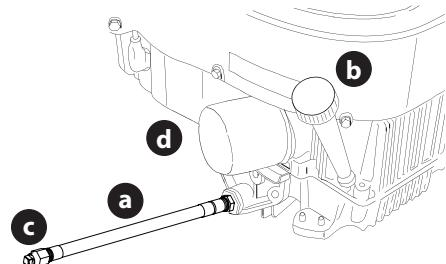

Figure 33
1. Locate the oil drain hose (a) on the side of the engine (Figure 33).
2. Place an appropriate oil collection container with at least a 2.5-quart (2.37 liter) capacity below the opening of the oil drain hose, to collect the used oil. Remove the oil fill cap/ dipstick (b) from the oil fill tube (Figure 33).
3. While holding the free end of the oil drain hose over the oil collection container, unscrew the square head hose plug (c) from the end of the oil drain hose (Figure 33). Drain the engine oil into the collection container.
5. Remove the oil filter (d) and drain into the collection container (Figure 33).
6. Replace the oil filter (d), and refill the engine with new oil as instructed in the Engine Operator's Manual (Figure 33).